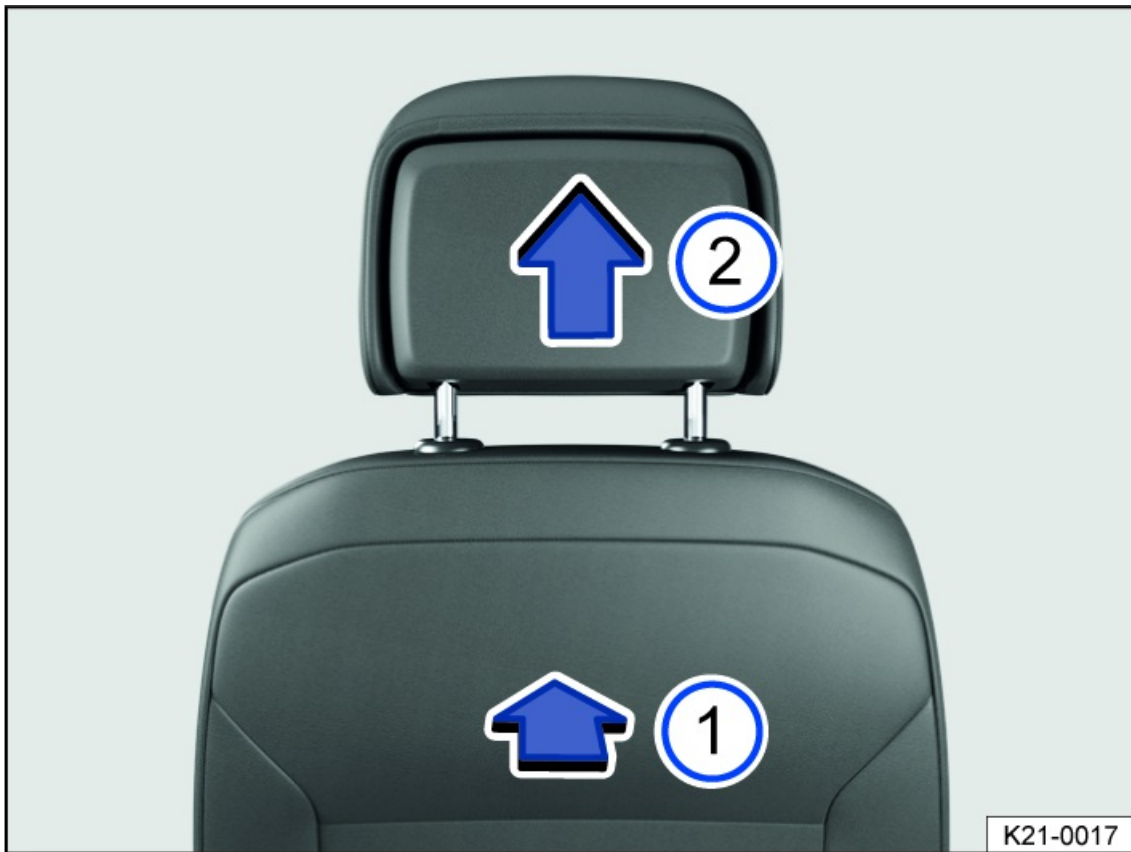

Fig. 68 Removing the front head restraint (general example).
3. Pull out the head restraint in the direction of the arrow *fig. 68*.